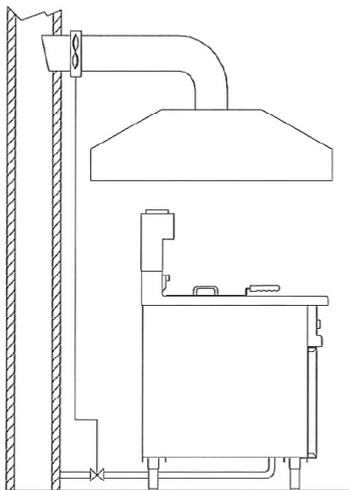

Fig. 4
- the end part of the appliance evacuation pipe must be positioned inside the base perimeter projection of the hood (**Fig.4**)